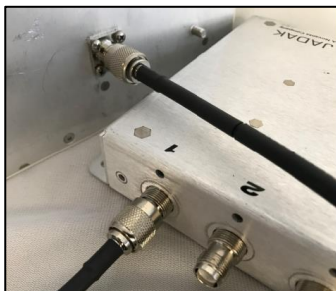

Figure 2: Power, LAN, and RF Connections to the Reader
1. Attach RF cable to the “1” port of the reader, and to the antenna as shown in Figure 2.